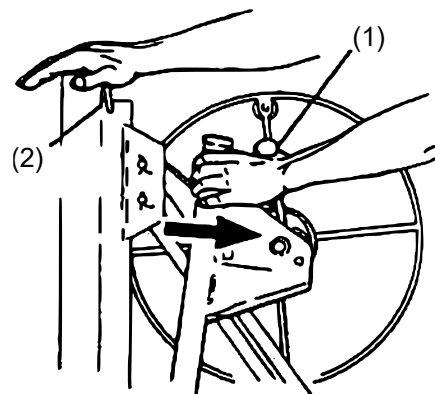

Figure 4
- c. Place your right hand on top of the frame. Continue to grip the brake arm (1) as needed to prevent cable backlash. Pull the winch assembly all the way towards you (Fig. 4).
- d. When the winch is fully extended (away from the frame housing), release the brake arm and swing the retaining hook (2) away so it no longer secures the telescoping sections inside the frame housing (Fig. 4).